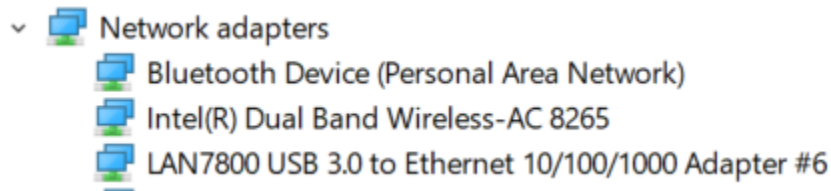

Figure 9: Device Manager showing the LAN7800 device
3. Open up device manager and confirm the device shows up as a Network Adapter as in figure 9 below.